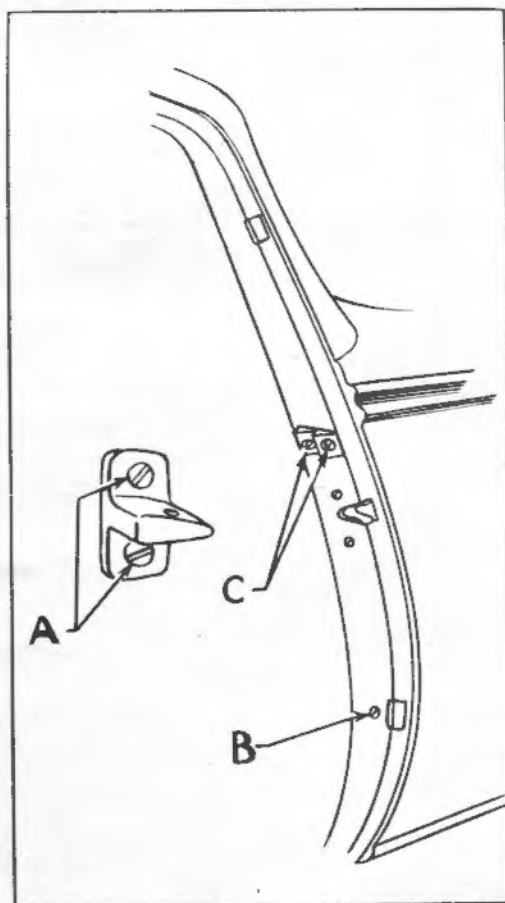

Figure 16
To adjust doors, first loosen the screws (A), Figure 16, holding the male portion of the dovetail to the door and move up or down as necessary so that it lifts the door 1/16" as it enters the female member when the door is being closed.